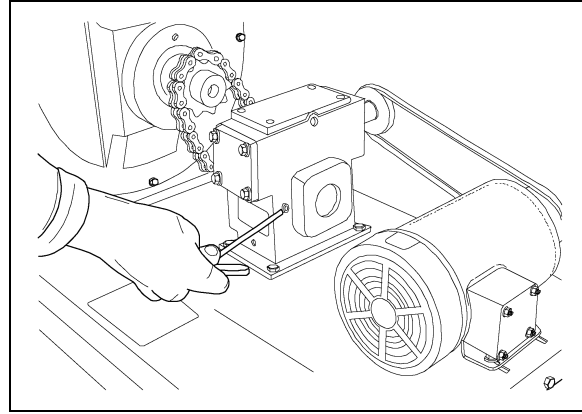

Figure 4O
- Check the oil level in the gearbox by removing the plug and noting if the oil is at this level. Add SAE 80-90 gear lubricant if required. \(See Figure 4O\).